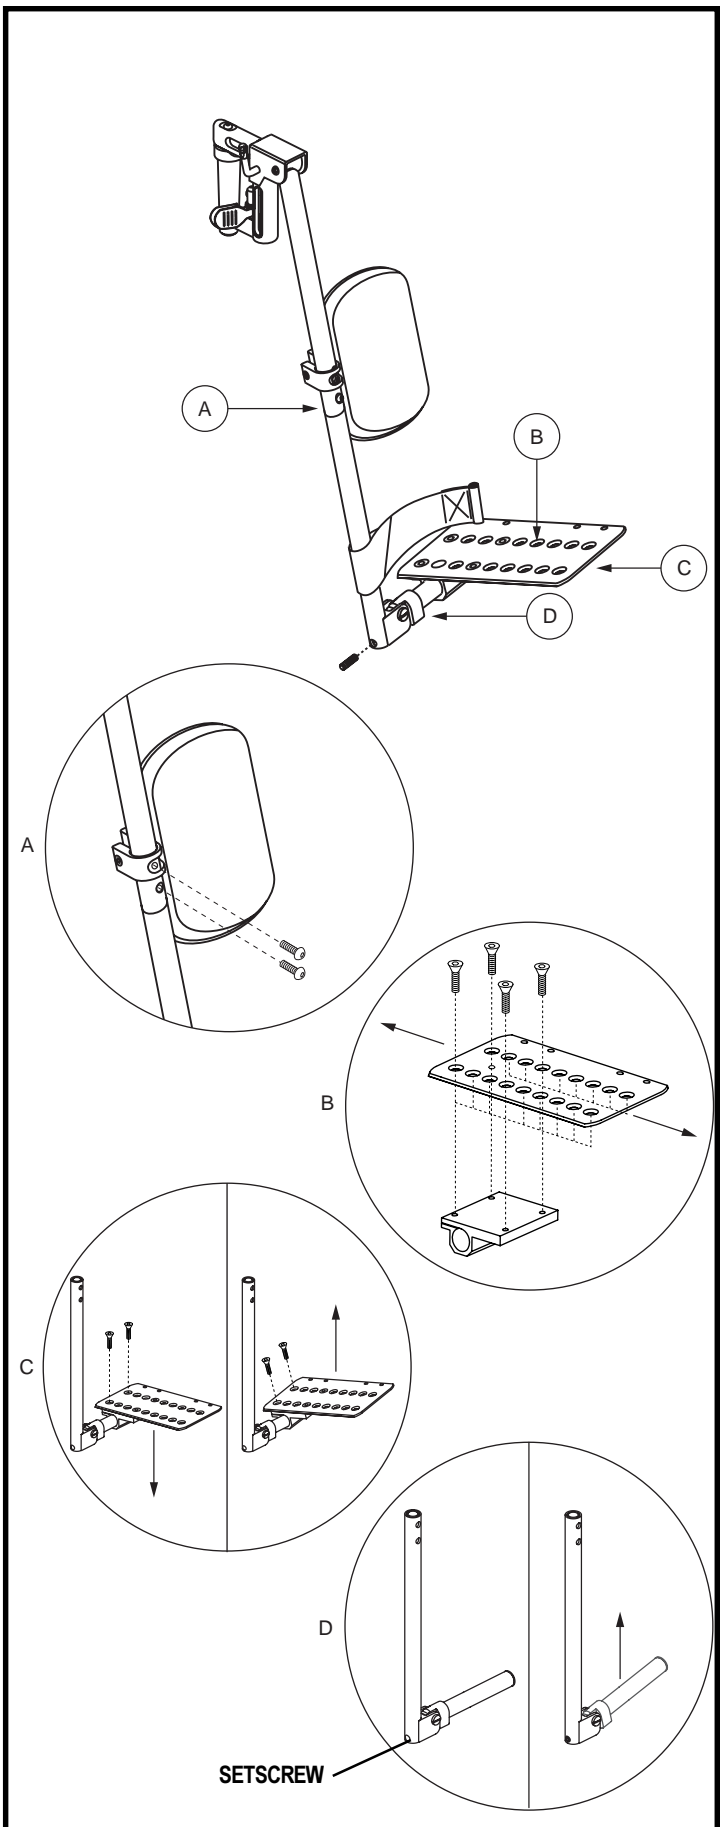

Figure 11a. Multi-axis Foot Plate
The multi-axis foot plate assembly can be installed on either a swing-away footrest or an elevating leg rest. The multi-axis foot plate has four adjustments: leg rest length (A), position (B), tilt (C), and angle (D). See figure 11a.